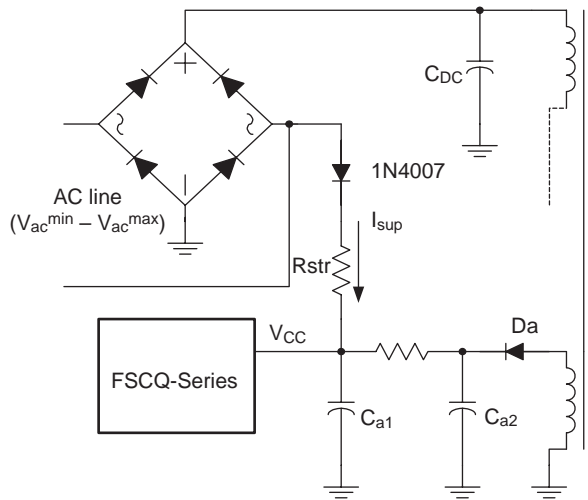
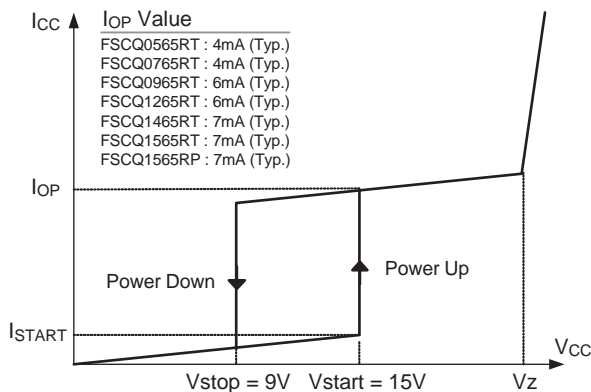

Figure 4. Startup circuit
Figure 5. Relationship Between Operating Supply Current and  $V_{CC}$  Voltage
**1. Startup:** Figure 4 shows the typical startup circuit and the transformer auxiliary winding for the FSCQ-Series. Before the FSCQ-Series begins switching, it consumes only startup current (typically 25µA). The current supplied from the AC line charges the external capacitor ( $C_{a1}$ ) that is connected to the  $V_{CC}$  pin. When  $V_{CC}$  reaches the start voltage of 15V ( $V_{START}$ ), the FSCQ-Series begins switching, and its current consumption increases to  $I_{OP}$ . Then, the FSCQ-Series continues its normal switching operation and the power required for the FSCQ-Series is supplied from the transformer auxiliary winding, unless  $V_{CC}$  drops below the stop voltage of 9V ( $V_{STOP}$ ). To guarantee the stable operation of the control IC,  $V_{CC}$  has under voltage lockout (UVLO) with 6V hysteresis. Figure 5 shows the relationship between the operating supply current of the FSCQ-Series and the supply voltage ( $V_{CC}$ ).